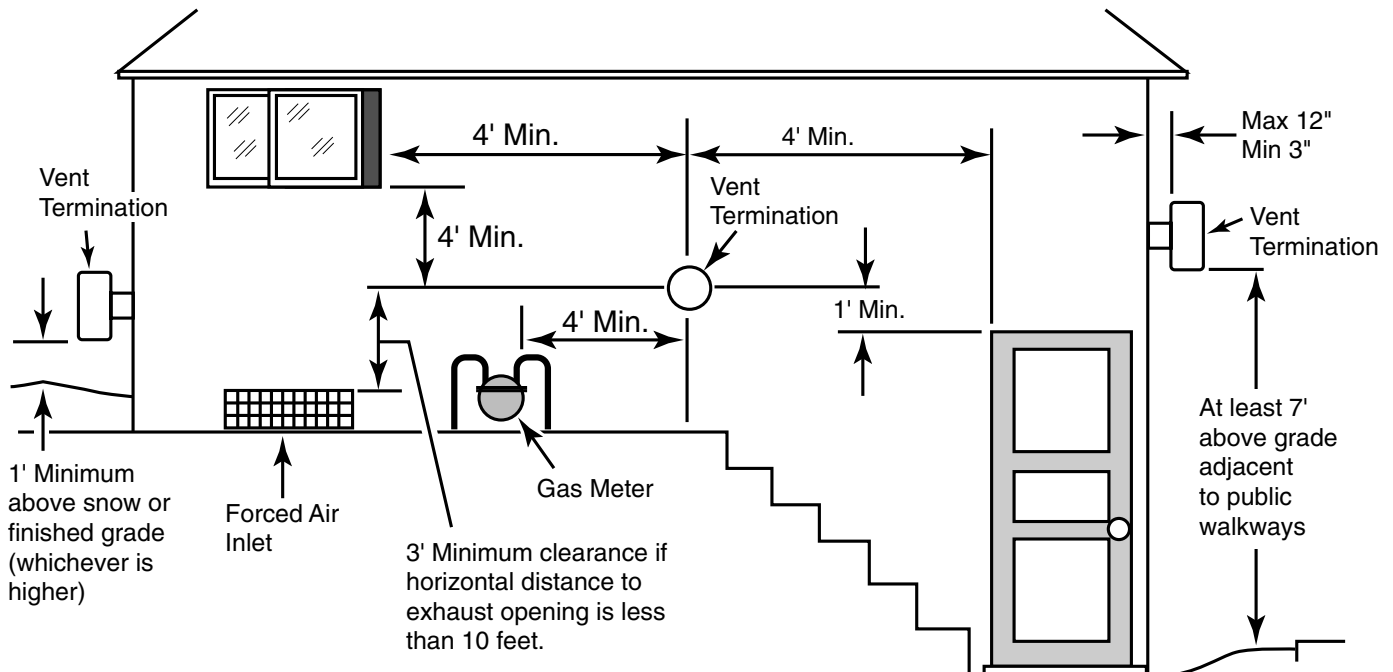

FIGURE 2-10: Minimum Clearances for Vent Termination - U.S.
In the U.S. the terminal must be located (see Figure 2-10, Page 2-10):
- at least 3" and at most 12" out from the wall (see Figure 2-10), following the vent manufacturer's instructions.